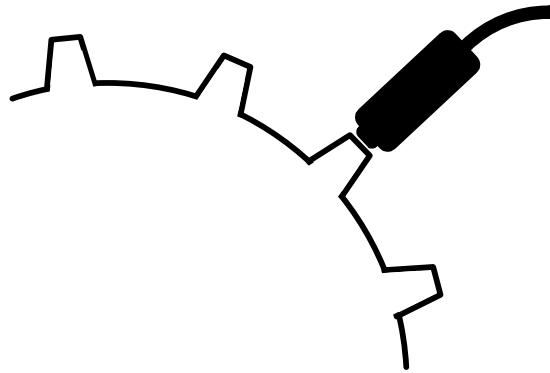
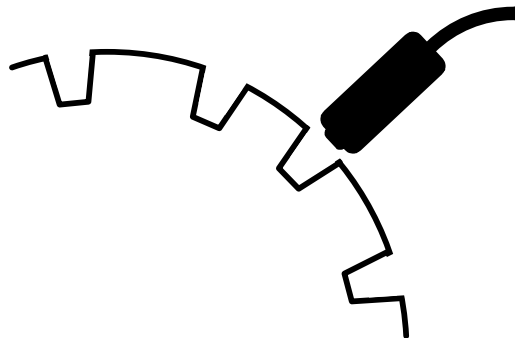
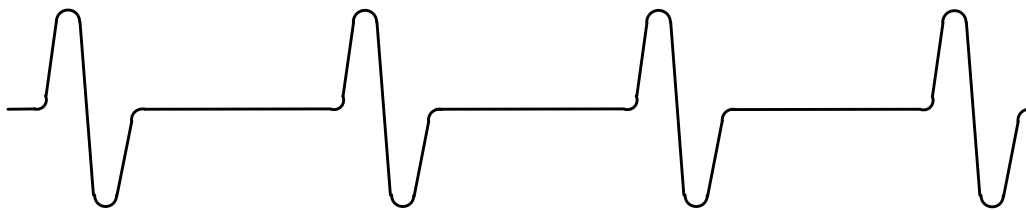
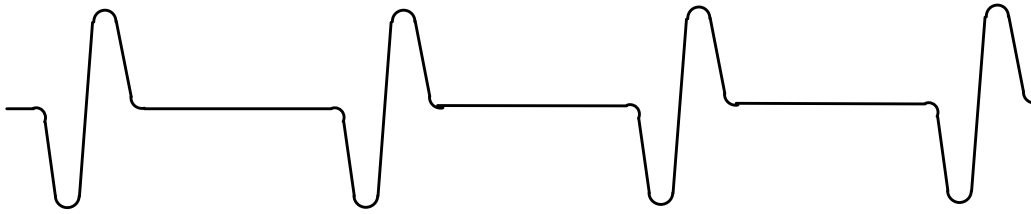

Figure 5. Positive tooth trigger wheel
Figure 6. Negative tooth trigger wheel
Figure 7. Correct signal polarity for VR input circuit
Figure 8. Incorrect signal polarity for VR input circuit
The AD Combo module provides two identical VR sensor inputs. A Variable Reluctance (VR) sensor input is a standard low cost automotive speed sensing input. It is an electro-magnetic sensing device containing a winding of wire around a permanent magnetic core. It relies on the movement of ferrous material (steel teeth) past the tip of the sensor to change the magnetic flux of the sensor. This creates a voltage pulse across the leads of the sensor's wire coil. Figures 7 and 8 below show a typical VR signal with respect to toothed wheels, as shown in figures 5 and 6. The VR signal will go positive as a tooth approaches the sensor tip. The signal will then rapidly swing back through zero precisely at the center of the tooth. As the tooth moves away from the sensor tip the voltage will continue in the negative direction and then return to zero.
Each VR sensor input requires two connections. The AD Combo module pins labeled VR1 and VR2 are the positive sensor inputs. The negative sensor inputs must be connected to GND pins on the module. The polarity of the sensor connection to the module is critical. The leads of the sensor should be connected such that the positive input of the VR circuit sees the waveform shown in Figure 7. The waveform shown Figure 8 is incorrect, and the VR circuit will not properly respond to this waveform. The rapid zero crossing of the VR signal must be in the negative direction.
The polarity of the physical tooth or gap on the trigger wheel will contribute to the polarity of the voltage pulse from the sensor. Figure 5 demonstrates a positive physical tooth polarity and Figure 6 demonstrates a negative physical tooth polarity. Assuming the lead polarity of a sensor remained the same, one of the configurations would generate the waveform shown in Figure 7, while the other configuration would generate the waveform shown in Figure 8.